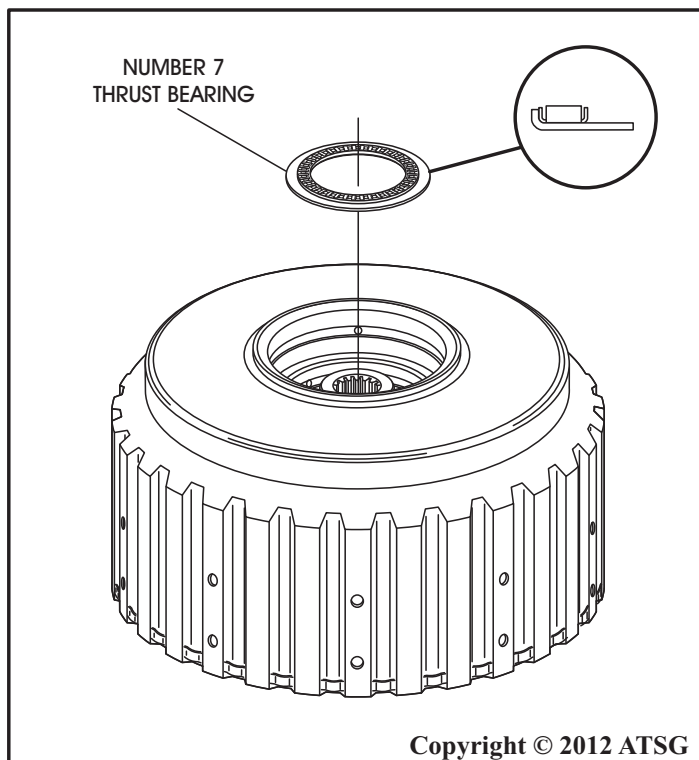

Figure 133
34. Turn the reverse/overdrive clutch housing over as shown in Figure 133.
35. Install the number 7 thrust bearing in direction shown in Figure 133, and retain with a small amount of Trans-Jel®.